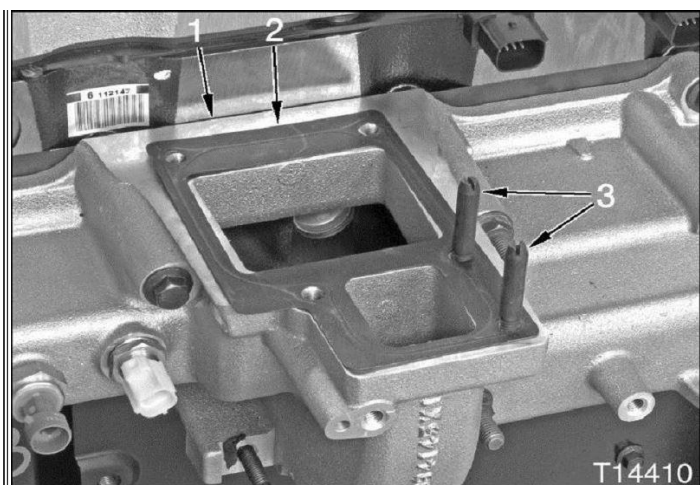

Figure 12: Mixing Bowl Gasket Alignment Pins
3. Pin (2)
44. Install two ZTSE4955 Gasket Alignment Pins (Figure 12, Item 3) into mixing bowl located on intake manifold (Figure 12, Item 1).
45. Install new inlet duct to intake manifold gasket (Figure 12, Item 2).
48. Remove two ZTSE4955 Gasket Alignment Pins (Figure 12, Item 3) from mixing bowl.